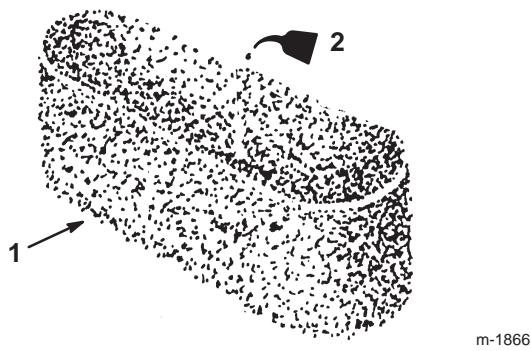

Figure 23
- C. Put 1 or 2 ounces of oil on the element (Fig. 23) and squeeze the element to distribute the oil.